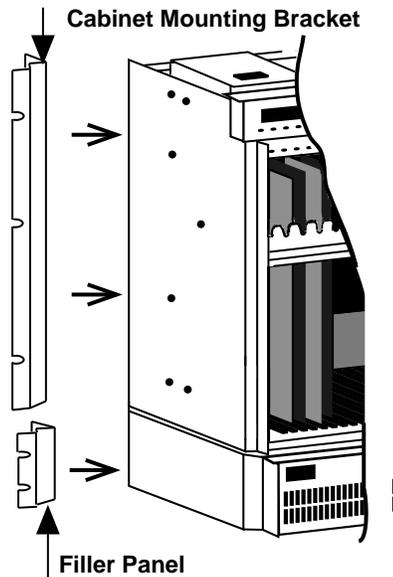

Figure 2-4. Installing Mounting Brackets onto the MAP/100C
2. Locate the left and right mounting ear brackets (A10039 and A10038) and attach them to the side plate of the unit as shown in Figure 2-4 on page 2-10. Secure each bracket with four #10 screws.
3. Locate the left and right mounting ear brackets (A10036-A and A10037-A). Attach them to the side plate of the unit as shown in Figure 2-4 on page 2-10. Secure them with four #10 screws for each bracket.